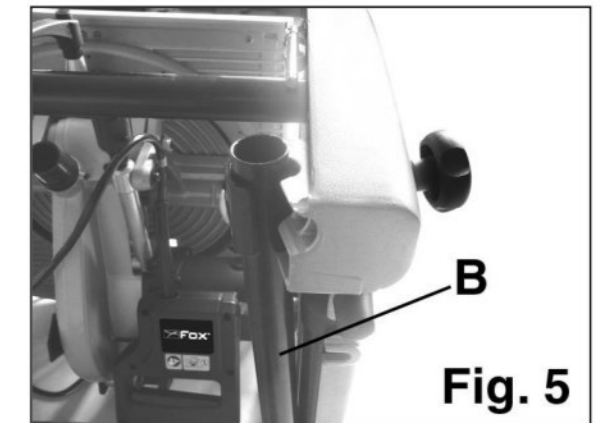

Fig. 5
- is feasible to move the legs (B) Fig.5.